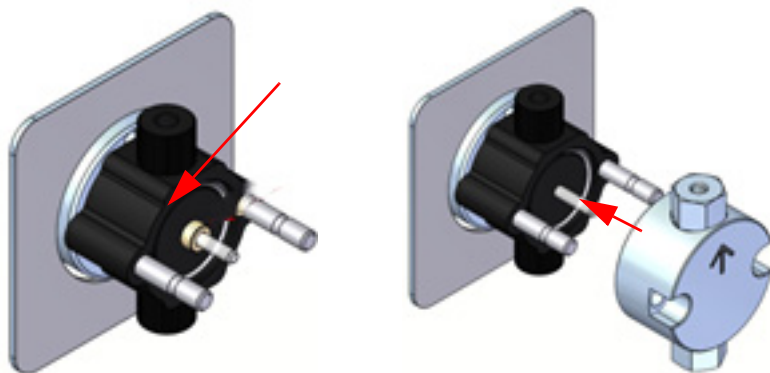

Figure 5-16 Reinstalling the pump head
15. Place the seal back-up washer on the piston. Replace the pump head. Make sure that the inlet check valves are on the bottom and the outlet check valves are on top (Figure 5-16).